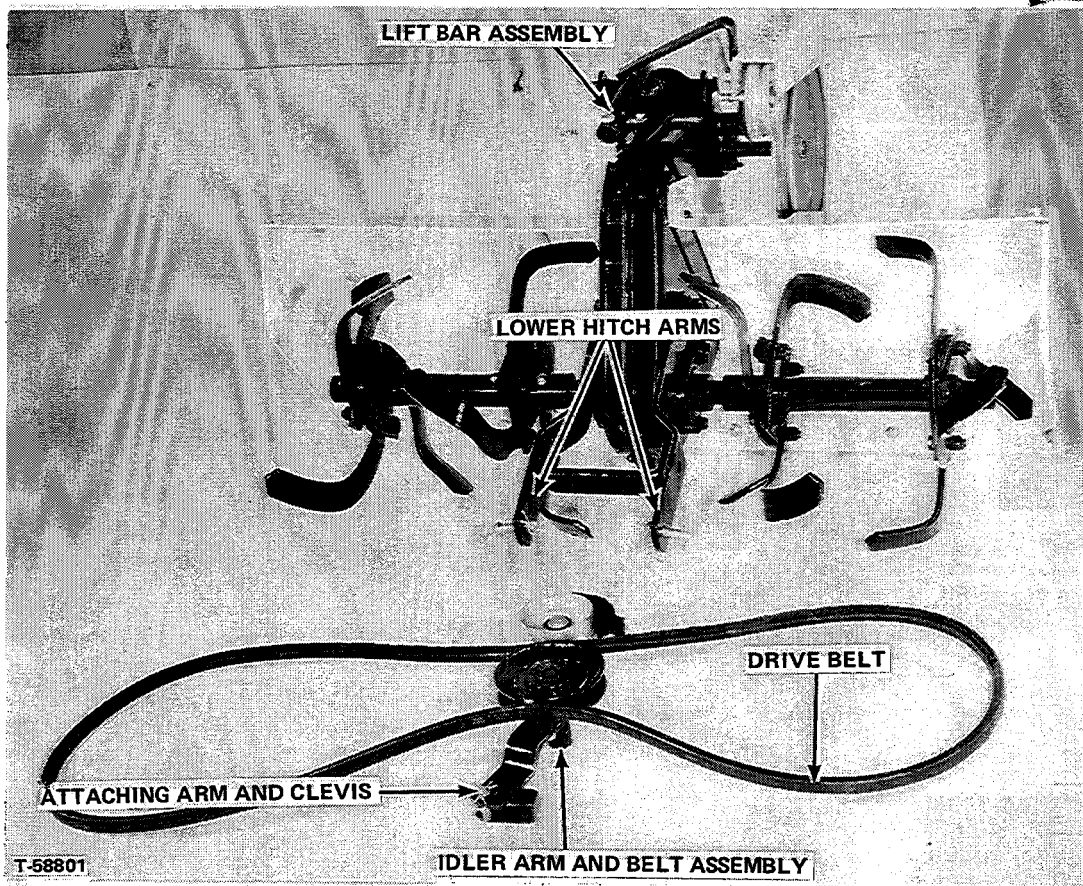

FIGURE 3 - Tiller Approximately as Shipped
2. Slide the center hub of the idler arm and belt assembly onto the left hand end of the rear lift shaft (Figures 3, 4 and 5). Rotate the attaching arm and clevis down over the left hand hitch member and fasten with pin and lock pin.